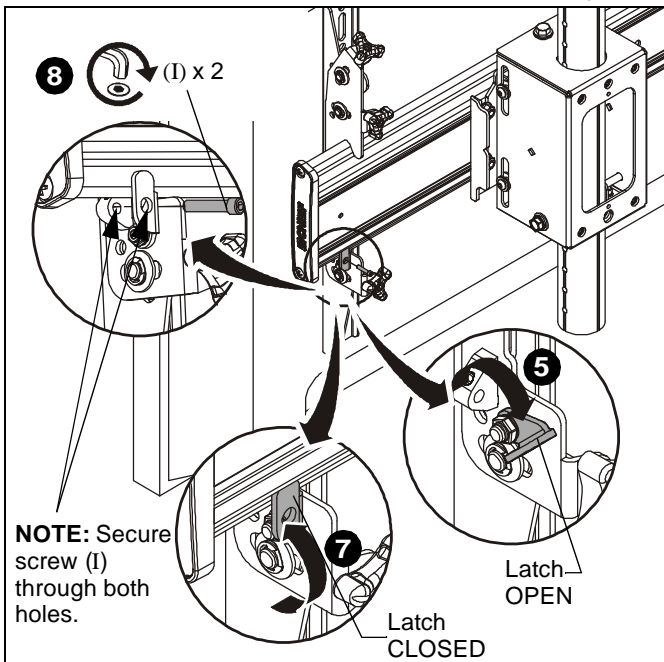

Figure 15
5. Open latch on attached interface brackets. (See Figure 15)
7. Raise latch on interface bracket and close into place against mounting rail. (See Figure 15)
8. Fasten latch into place using one 1/4-20 x 1-1/4" socket head screw (I). (See Figure 15)
**NOTE:** Socket head screws (I) must engage through both holes to be fully secured. (See Figure 15)